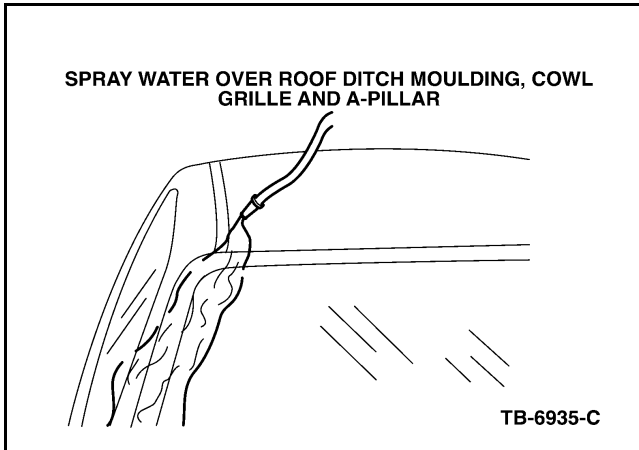

Figure 1 - Article 05-13-3
1. Using a high pressure water hose or a pressure washer, run water onto the windshield being sure to direct water over the roof ditch moldings, and down onto the cowl (Figure 1).